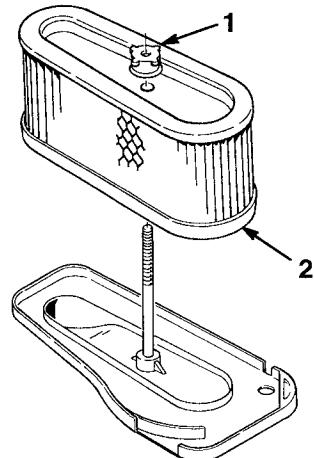

Figure 28
4. Unscrew the rubber nut and remove the paper element (Fig. 28).
1. Slide the air cleaner assembly onto the long rod. Now screw the rubber nut finger-tight against the air cleaner (Fig. 28).